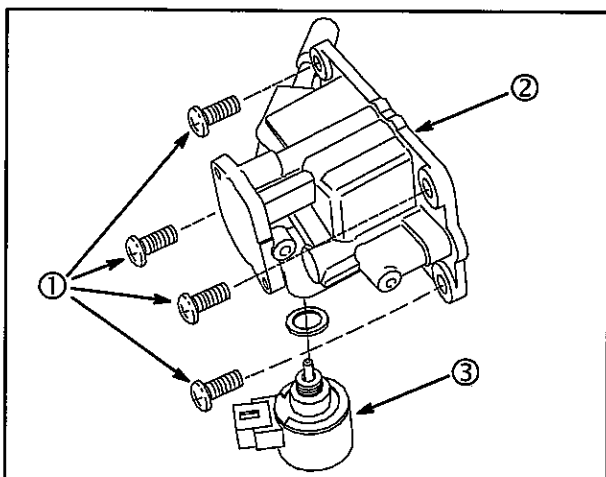

Fig. 130
1. Remove four screws (1) and float bowl (2), **Fig. 130**. Discard gasket.
2. Use **13 mm** thin profile wrench to remove fuel solenoid (3) from float bowl. Discard gasket.